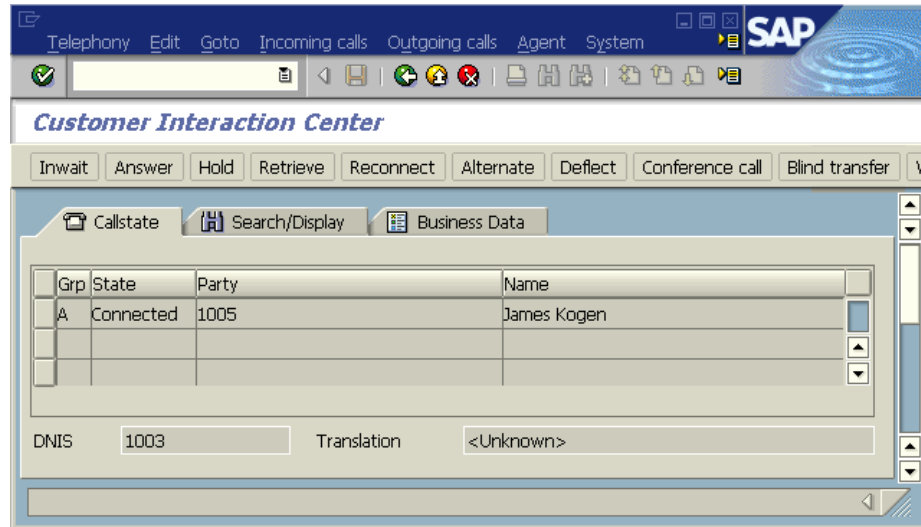

Figure 39: SAP: Agent Accepted the Call
4. On the **Customer Interaction Center** screen, click **Answer** to accept the call. See Figure 39 for an example of an accepted call.